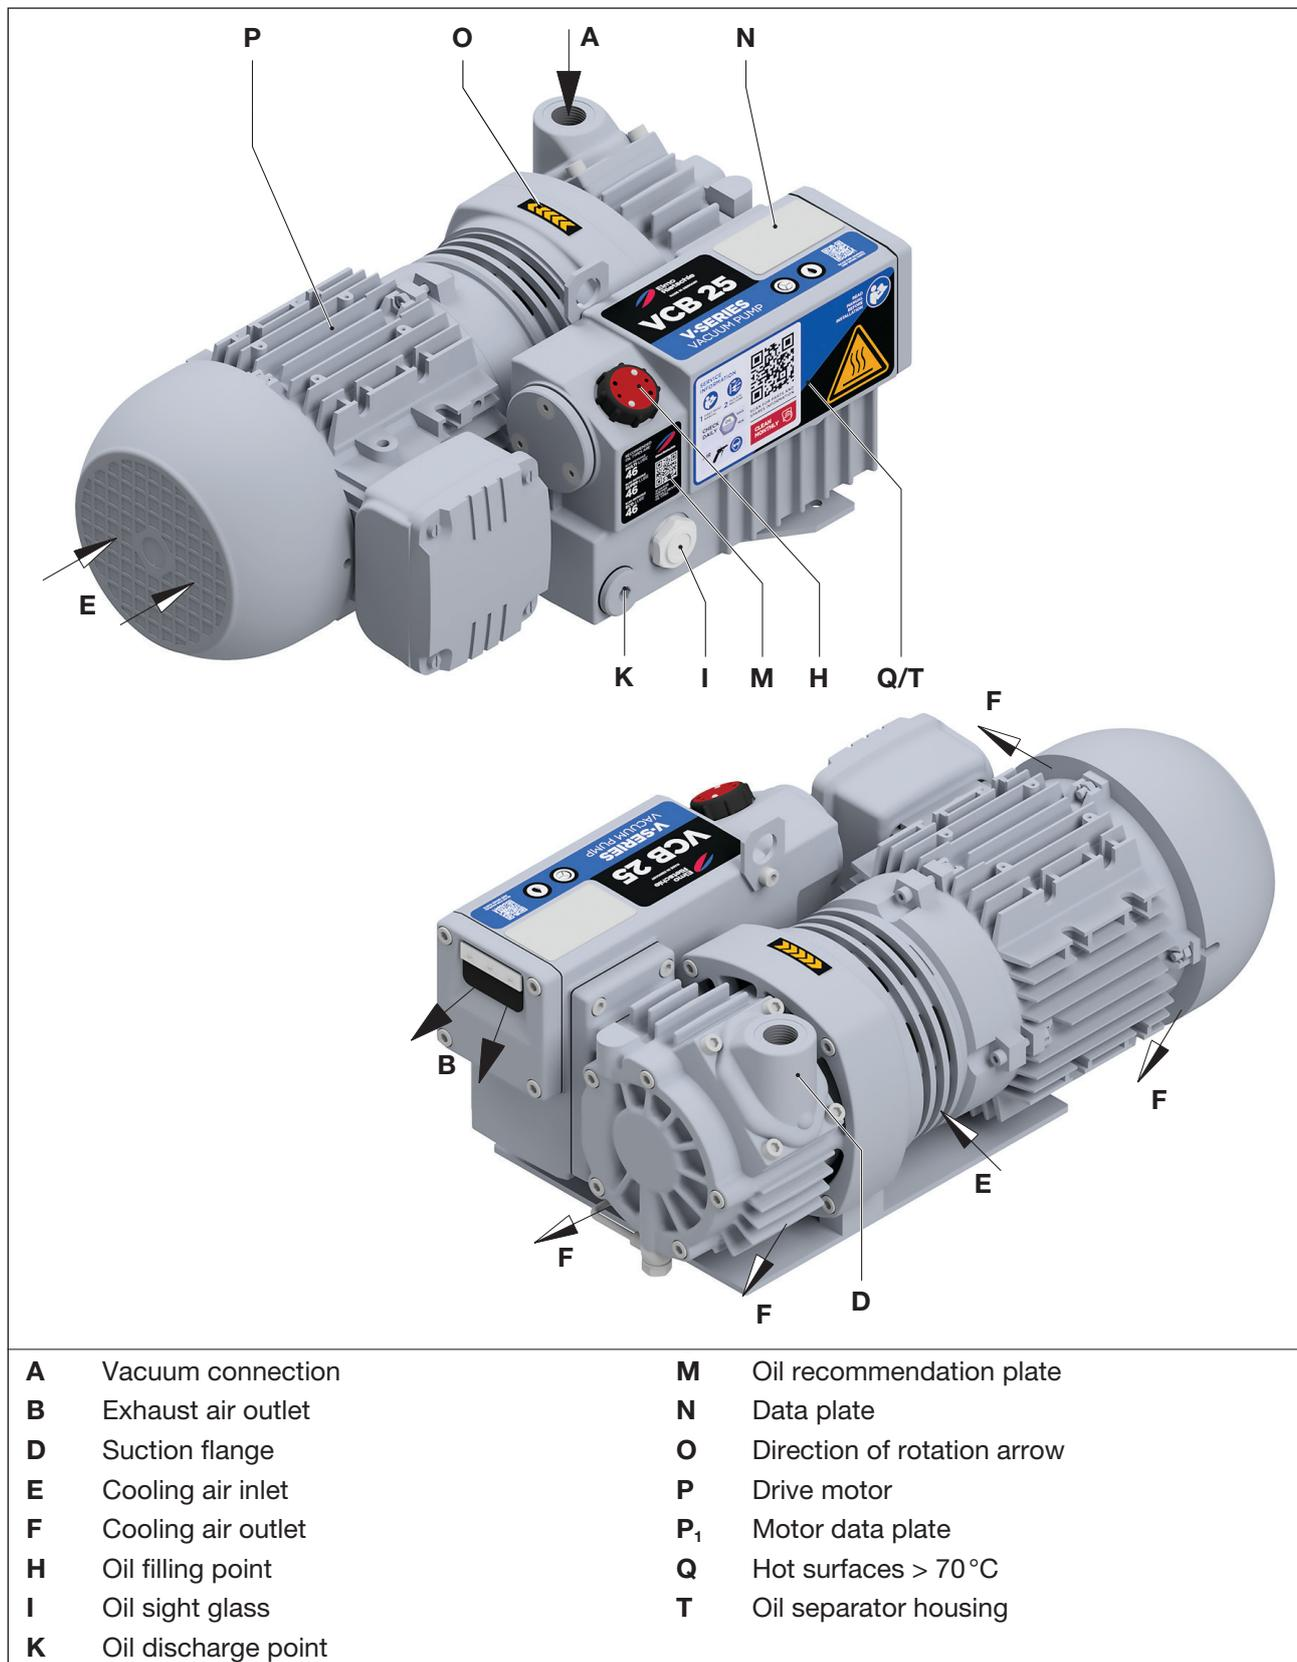

Fig. 2 Vacuum pump V-VCB
- Suction flange (Fig. 2/D), oil filling point (Fig. 2/H), oil sight glass (Fig. 2/I), oil drain (Fig. 2/K) and oil separator housing (Fig. 2/T) must be easily accessible.
The vacuum connection (Fig. 2/A) is located on the suction flange (Fig. 2/D).
The exhausted air will be blown out through the exhaust air outlet (Fig. 2/B)
- a) Remove the blind plug on the vacuum connection (Fig. 2/A) and remove exhaust air outlet (Fig. 2/B).
- b) Connect the pipes with the vacuum connection (Fig. 2/A).
- c) The extracted air can be blown out through the exhaust air outlet (Fig. 2/B) or led away by means of a hose or pipe.
- a) Check the lubricating oil level through the oil sight glass (Fig. 2/I) and top up, if necessary. See chapter 7.6 “Lubricating Oil”, page 26